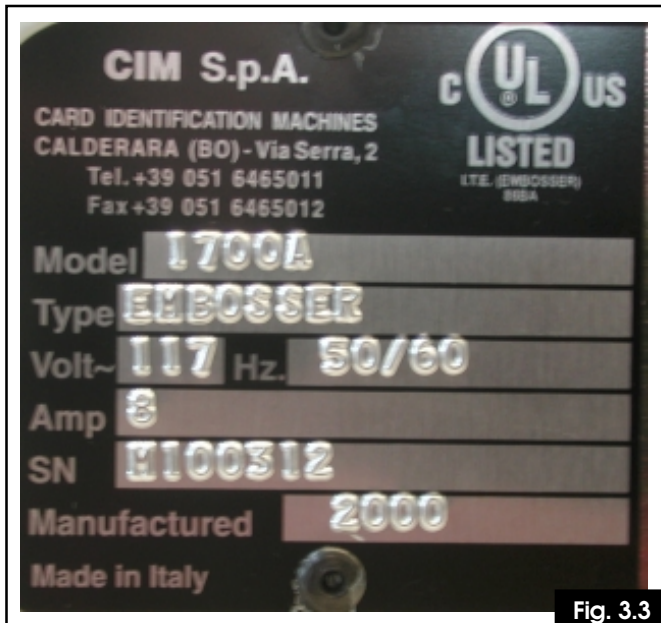

Fig. 3.3
- Before switching the machine on be sure that all the cables have been connected correctly and that the local power supply corresponds to that stated on the plate. The plate layout is as follows: (ref. figure 3.3).